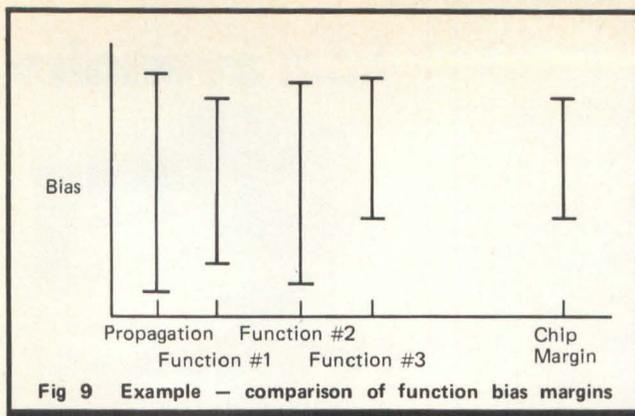

Fig 9 Example - comparison of function bias margins
- **Characterization Test** produces "Schmoo" plots of bias margin as a function of the amplitude, position and duration of each device function. Overall device and propagation margins are also tested (Fig 9).
Because of its importance, much of the current testing procedure inspects the change in bias margin as some other testing variable changes. If the magnetic bias field is too large, bubbles will tend to collapse and disappear. If the field is too small, the bubbles will become too large for one storage location and will 'strip out' during propagation. For current devices with a nominal bias field of about 120 Oersteds, the margin may vary from 8 to 20 Oersteds. To ensure the most reliable operation of the device, this margin should be as large as possible. In general, each Permalloy element and each bubble function has its own operating margin. These margins do not fully overlap (Fig 9). The overall operating margin is the intersection of the margins of all of the functions. Advanced testing techniques such as the Radar Longevity Program allow us to test the operating margin of each device element. Thus we can correct the device design and detect mask defects as well as identify individual device defects.